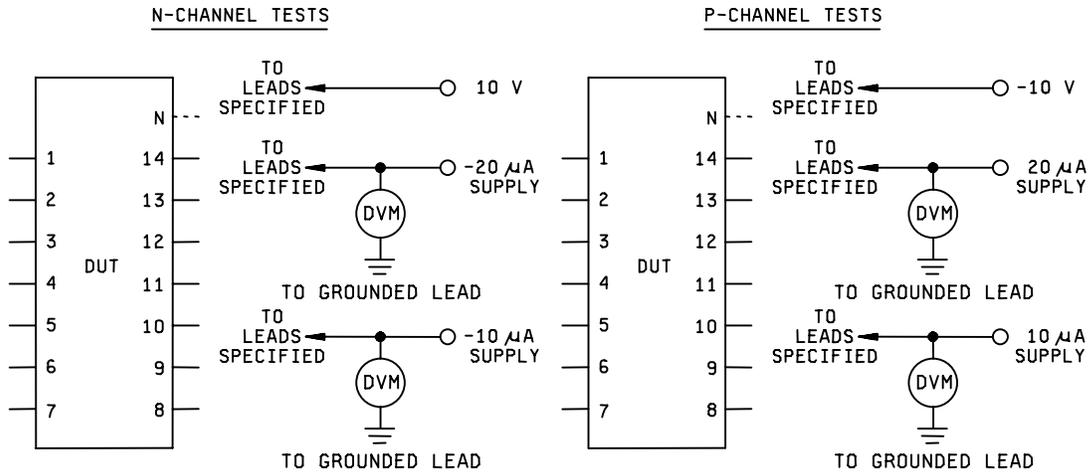

FIGURE 17. Threshold-voltage test circuit.
- Threshold-voltage test circuit conditions shall be as specified in table VII and on figure 17. In situ and remote testing, the tests shall be performed with the devices biased in accordance with table VI and the bias may be interrupted for up to 1 minute to remove devices to the remote bias fixture.